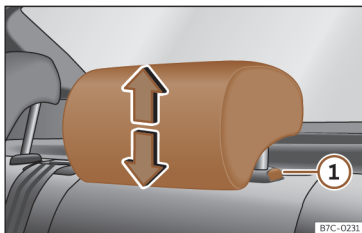

Fig. 87 Rear headrest: adjusting the headrest.
- Grab the sides of the headrests with both hands and push upwards to the desired position. To lower it, repeat the same action, pressing the button on the side ① >>> **Fig. 87**.